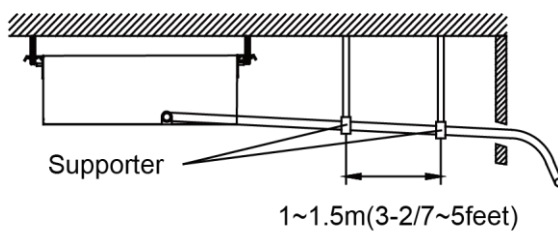

Figure 3-1-9
- (3) When the hose is long, install supporters.(Figure 3-1-9)
- (4) Always use the drain hose which has been insulated properly.